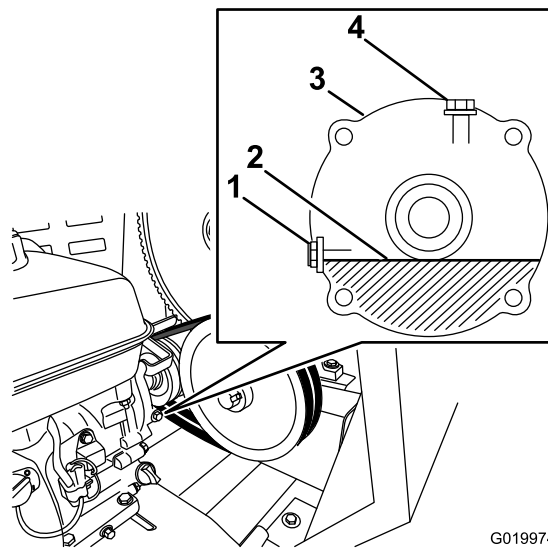

Figure 58
2. Locate the reduction case between the engine and the engine pulley (Figure 58).
4. Remove the oil-level-check bolt and washer from the oil-level port (Figure 58).
- A. Remove the filler bolt and washer from the filler port on the top of the reduction case (Figure 58).
- C. Install the filler bolt and the washer to the filler port of the reduction case, and tighten the filler bolt (Figure 58).
5. When the oil is level is flush with the threads at the bottom of the oil-level port, install the oil-level-check bolt and the washer to the port and tighten the oil-level-check bolt (Figure 58).
8. Slowly add the specified oil into the fill port until the oil level is level with the threads at the bottom of the oil-level port (Figure 58).